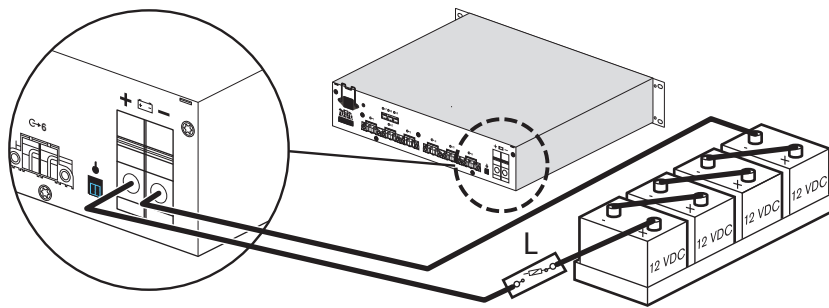

Figure 6.4 Connect multiple batteries in series for PLN-48CH12 (48 Vdc) battery charger
- Always connect the batteries in series. *Figure 6.4* shows an example of connecting four 12 Vdc batteries to the PRS-48CH12 Battery Charger.
- Always use a battery fuse breaker (L) as close as possible to the battery.